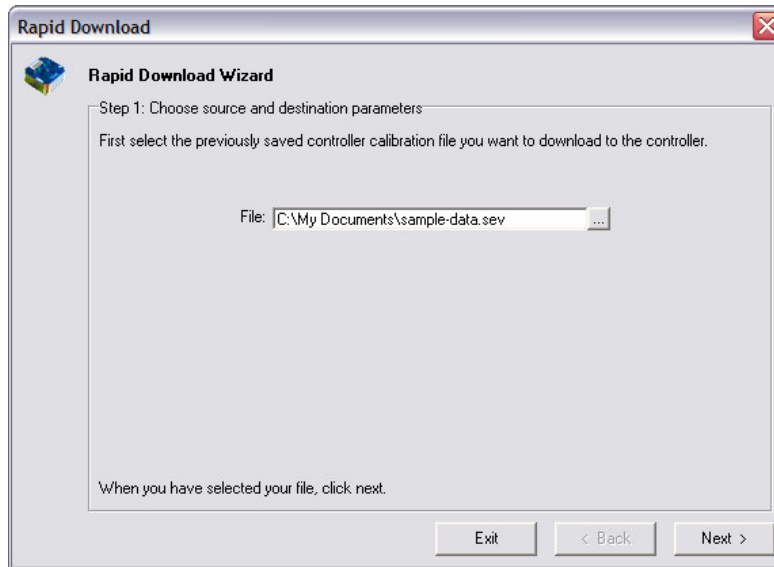

Figure 15: Rapid Download Wizard - Step 1.
1. **Choose Source and Destination Parameters.** In this step, select the Controller System Profile file which contains the system personalities to download. Click on Next when ready. See Figure 15.